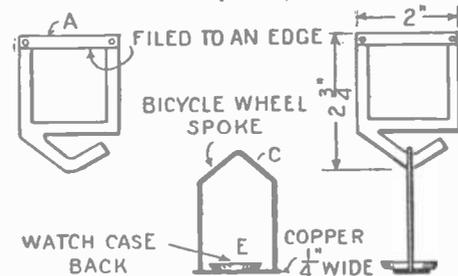

FIG. 3
Next the hangers and pans are made. These must be of the same weight so as to balance. The hangers are cut from copper with the exception of part (A), which should be steel with the under side filed or ground to an edge. The hangers measure  $2 \times 2 3/4$  inches, Fig. 3. The pans are made as follows: The piece (C) is bent from a bicycle wheel spoke. (D) is a strip of copper about  $1/4$  inch wide, (E) is a watch case back. All parts are soldered together. Fig. 4 shows how they are assembled.